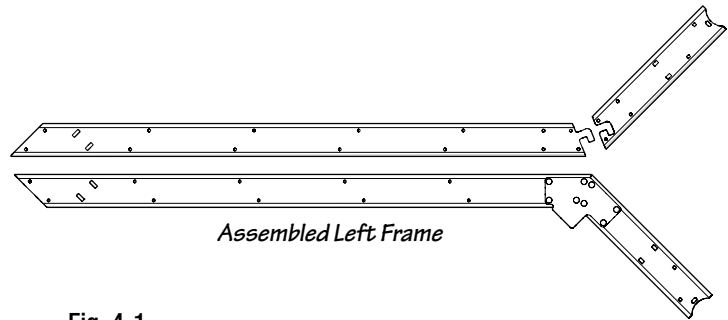

Fig. 4-1
As shown right in Fig. 4-1 & 4-2.
- Lay the assembled frame next to the unassembled frame, as illustrated in Fig. 4-1.